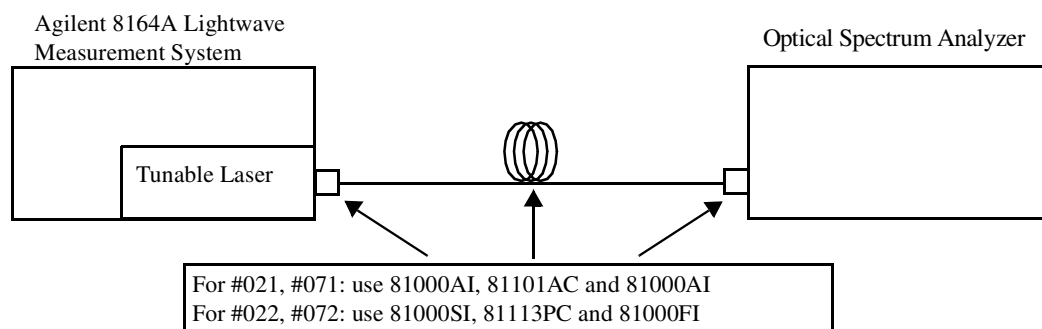

Figure 22 Test Setup for the Source Spontaneous Emission Test - High Power Outputs
- 1 Connect the Tunable Laser module to the Optical Spectrum Analyzer as shown in Figure 22.